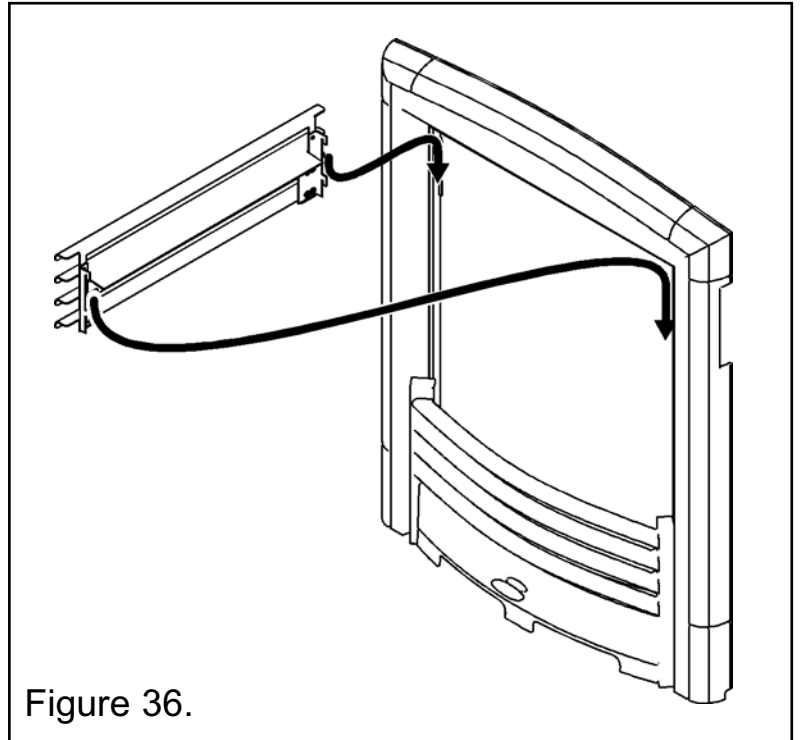

Figure 36.
1. Locate the louvre assembly onto the brackets at the top of the fascia casting (See figure 36).